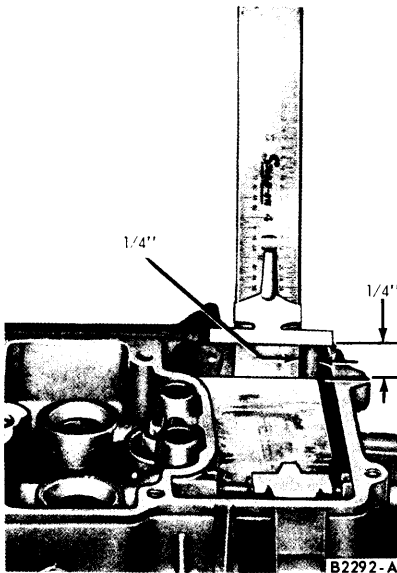

FIG. 9—Fuel Level Float Adjustment (Wet)
4. While the engine is idling, use a standard depth scale to measure the vertical distance from the top machined surface of the carburetor main body to the level of the fuel in the fuel bowl (Fig. 9). The measurement must be made at least 1/4 inch away from any vertical surface to assure an accurate reading, because the surface of the fuel is concave (higher at the edges than in the center). Care must be exercised to measure the fuel level at the point of contact with the fuel. Refer to the specifications (Part 10-6) for the correct fuel level (wet) setting.